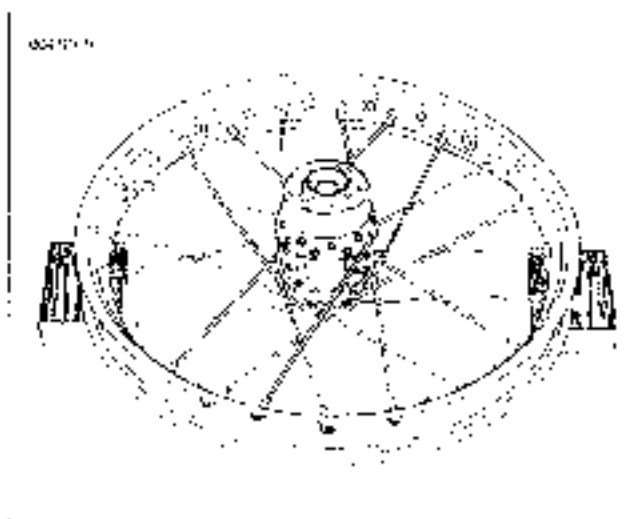

Figure 2-47.
7. See Figure 2-47. Turn rim over brake disc side up. Place any lower row spoke into hub. Angle spoke clockwise and place into rim hole angled to accept it.